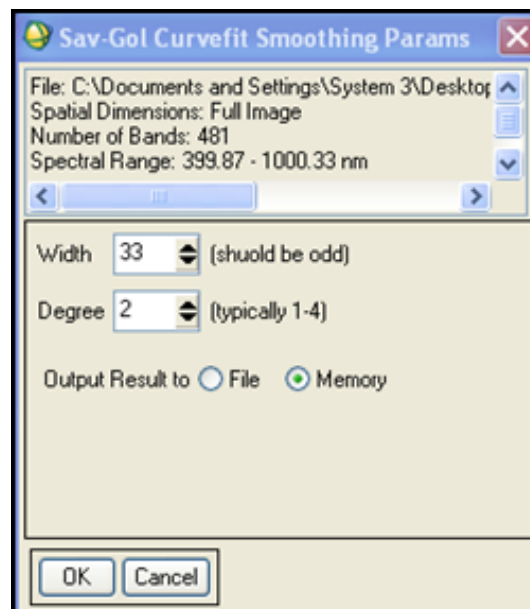

Figure 11k. Sal-Gov CurveFit Params Box
- Select the image in the Select input file dialog, or click Open, New. Then click OK. The Sav-Gol Curvefit Smoothing Params box will open (Figure 11k).